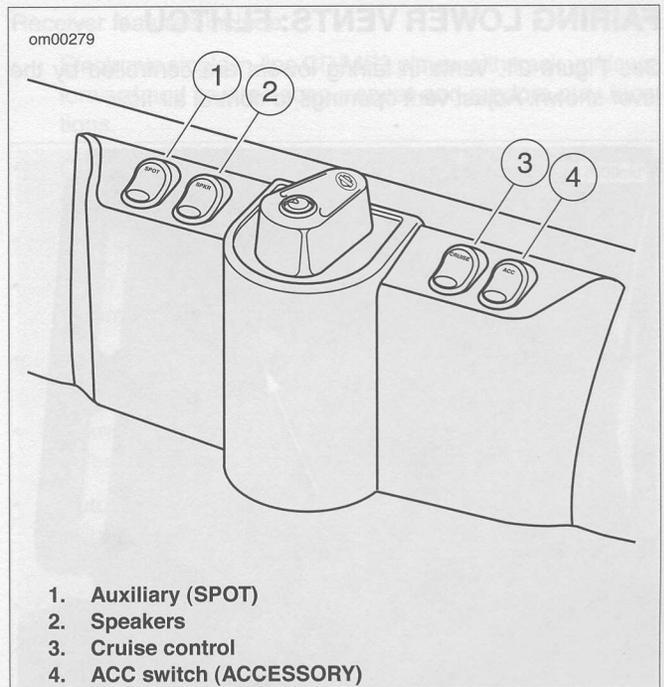

Figure 19. Switch Indicators
See Figure 19. All touring models have an accessory switch (4) for the owner's use. This switch is located on the right side of the fairing (FLHT) or left side triple clamp shroud (FLHR).
See Figure 19. Use the auxiliary lamp switch (1) to turn ON the auxiliary lamps as required.